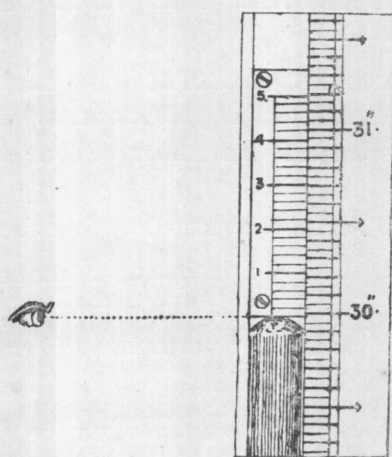
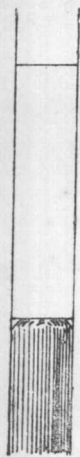
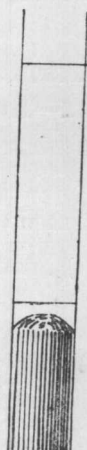

FIG. 1.
FIG. 2.
FIG. 3.
- (iv) **Setting of the Vernier:** Adjust the vernier by means of the milled-head screw on the right hand side till its lower edge is a tangent to the *convex* top of the mercury column, *i.e.*, the front and back edges of the vernier and the top of the mercury column must all lie in the same straight line. This can only be ascertained if the *eye of the Observer is at the same level as the topmost point of the mercury column*. Thus when the vernier is correctly set the appearance of the top of the mercury and the vernier will be as in Fig. 1. If the vernier appears to cut off part of the mercury as in Fig. 2, then it has been set too low, and if the appearance is as in Fig. 3, then the vernier has been set too high.
the vernier and the top of the mercury column. Then lower the vernier very gradually so that this light space becomes less and less, and eventually the *lower edge of the vernier just touches the highest point of the mercury column*. No light space must be visible from any position of the eye between the edge of the vernier and the highest point of the curved mercury surface, but with the eye at the correct level (*see Fig. 1*) the *bright triangles on each side should appear as large as possible*.
- (v) **Reading the Scale and the Vernier :** The fixed scale on the right of the vernier is graduated to 0.050 of an inch. First note between which two graduations the top of the mercury column stands and record the lower one. Thus in Fig. 1 the mercury top lies between 29.950" and 30.000" and hence the reading on the fixed scale should be taken as 29.950". Then look along the vernier and see which of its lines most nearly coincides with a line on the fixed scale. Each division marked by figures 1, 2, 3, etc., on the vernier is equal to .010" and each sub-division between the figures is equal to .002". In Fig. 1 the third line above 3 of the vernier is continuous with a line on the fixed scale. The number 3 corresponds to .030" and the third sub-division corresponds to $(3 \times 0.002") = .006"$. Thus in the foregoing example (*see Fig. 1*),